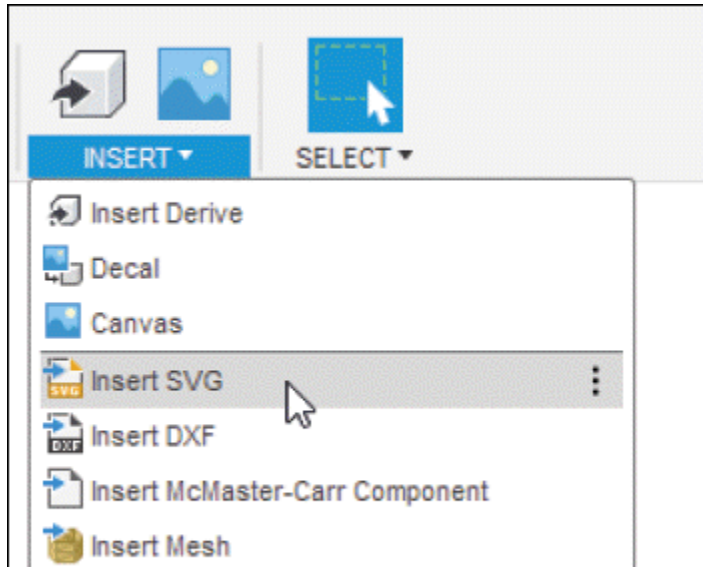

Figure-14. Insert SVG tool
- Click on the **Insert SVG** tool of **INSERT** drop-down from **Toolbar**; refer to Figure-14. The **Insert** dialog box will be displayed.